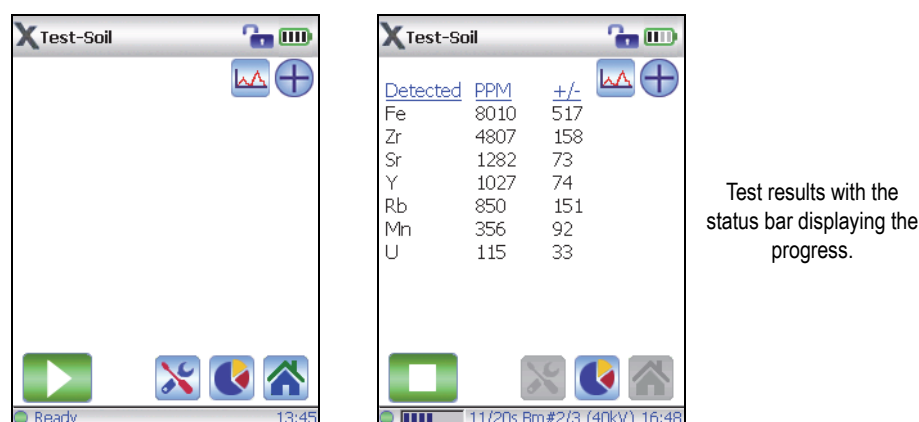

Figure 4-26 Test start and in-progress screens
1. Navigate to the **Test** screen (see Figure 4-26 on page 82).